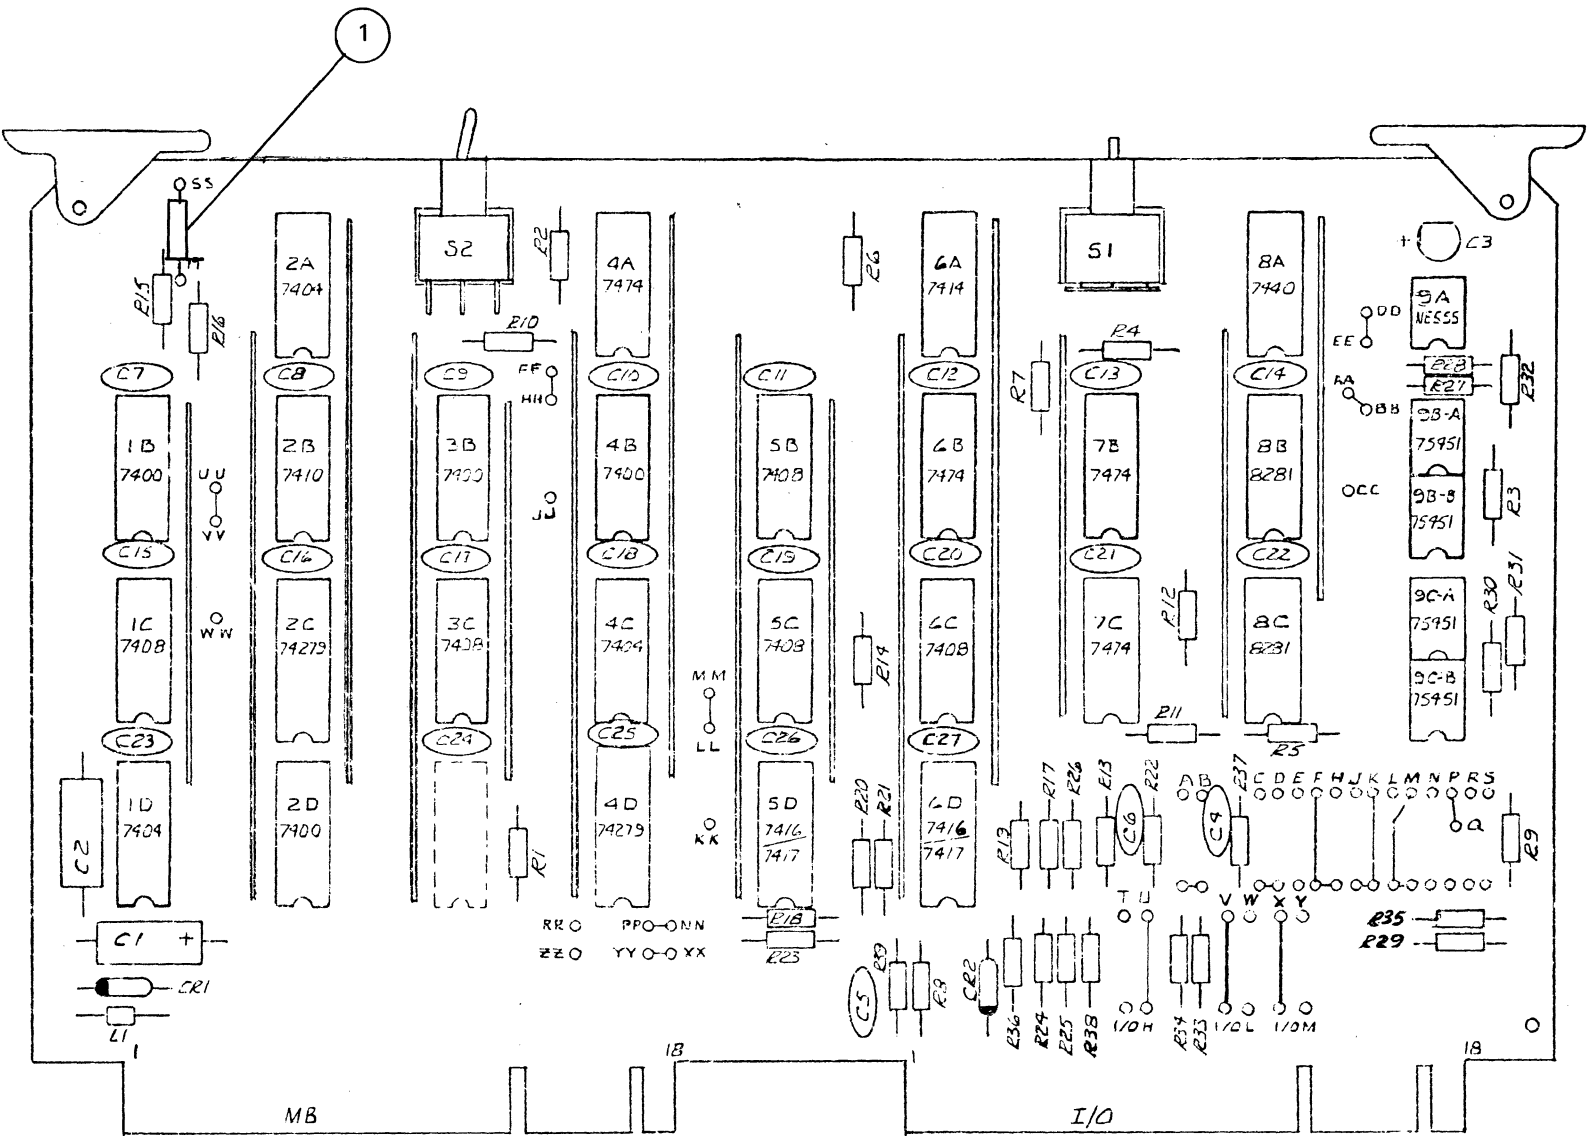

Figure E-4
- c. Install a zero-ohm resistor (Documentation Part No. 00000198), or an insulated jumper wire on the Fault card between solder pads SS and TT (Figure E-4, item 1).